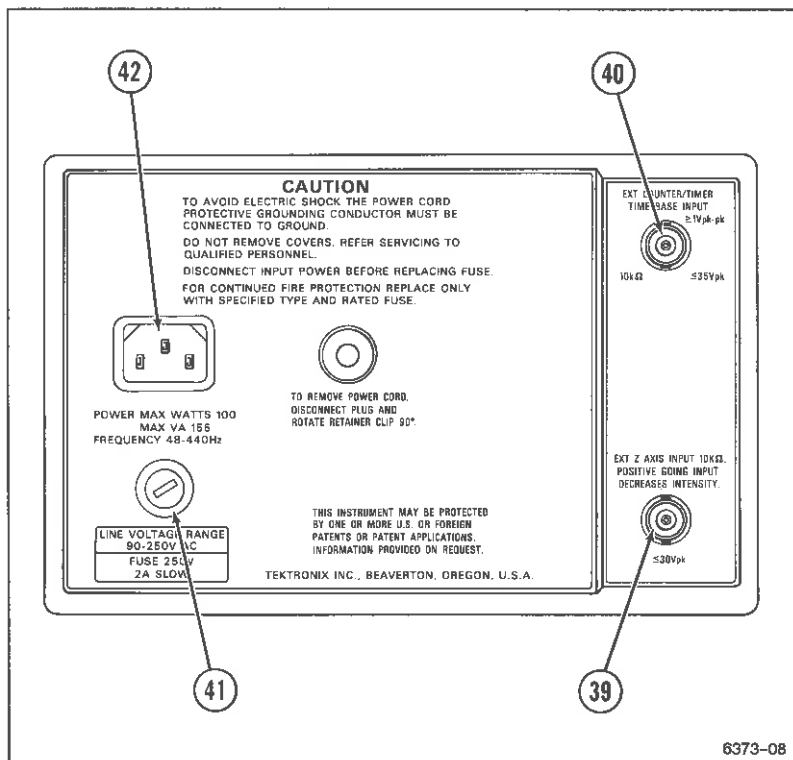

Figure 2-6. Rear panel.
Refer to Figure 2-6 for location of items 39 through 42.